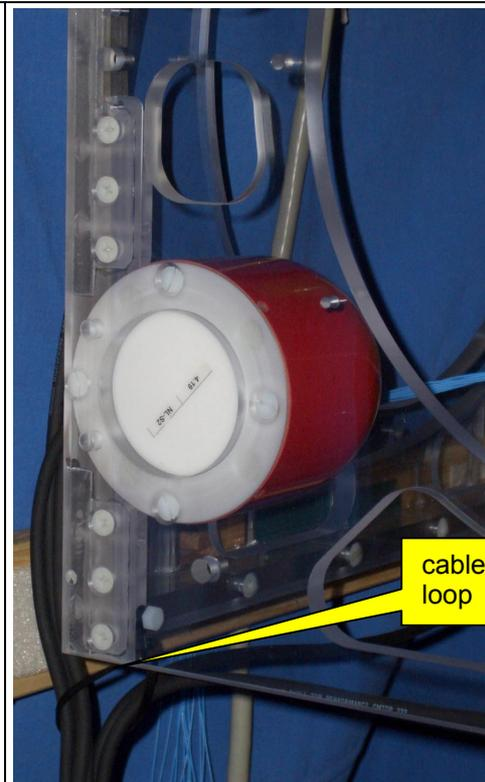

Figure 3:
- lead the cable through the loop near the red transmitter NL_2 (see. Figure 3)
- find all cable ties and unscrew the plastic machine screws except the one shown in Figure 3
- all 6 cables come through the cable ties loop in figure 3.